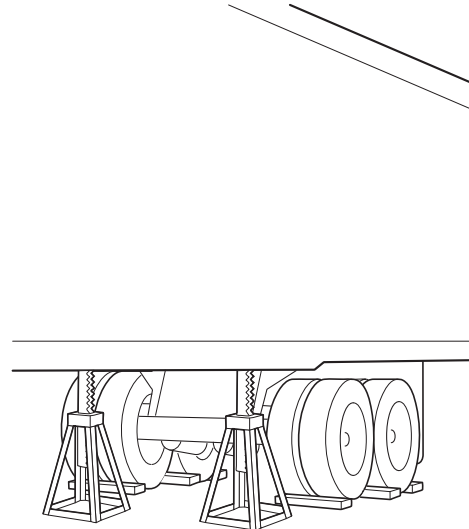

Figure 7: Use of chocks and trailer stands
3. To prevent the trailer from moving, chock the wheels of an axle not being raised (Figure 7).
2. **Raise and support** the vehicle in a safe manner (Figure 7 on page 7).